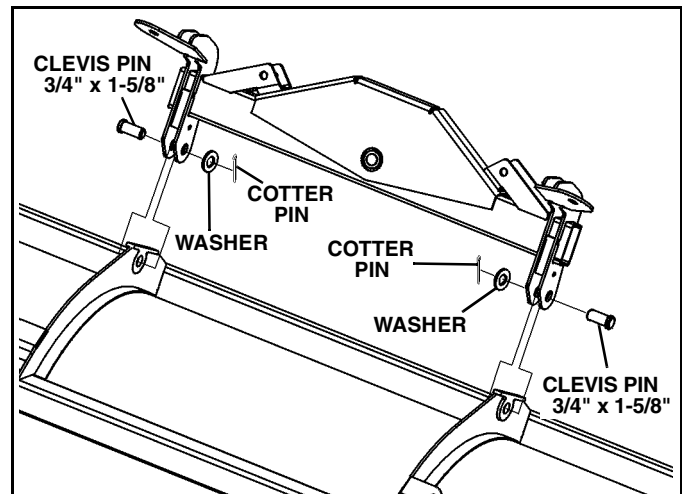

Figure 1-5
4. Place swing frame on blade, positioning the two inside ribs between the swing frame lugs. insert a 3/4" x 1-5/8" clevis pin from blade parts bag to fasten each side. (See Figure 1-5).